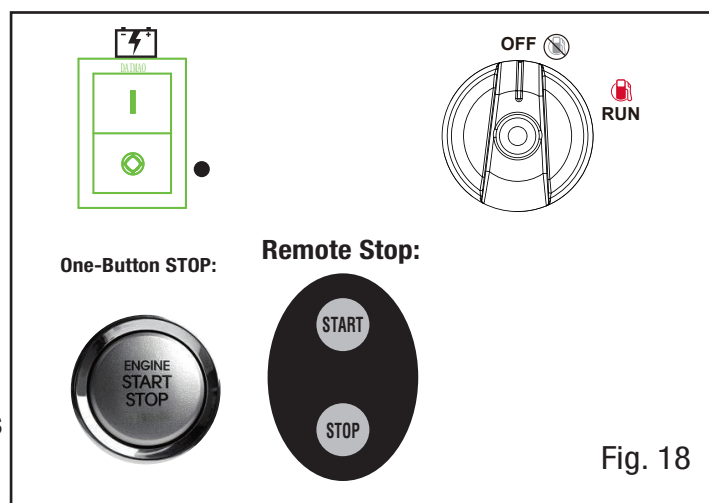

Fig. 18
3. Turn the knob switch to “OFF”, Press the battery switch “OFF”, press One Button “STOP” (Fig. 18).
4. Hold down the REMOTE “STOP ” switch for 3 seconds (Fig. 18).